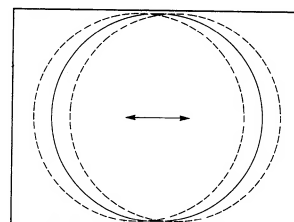

fig. 2
- d) Adjust the horizontal location to obtain picture centering (fig. 2).